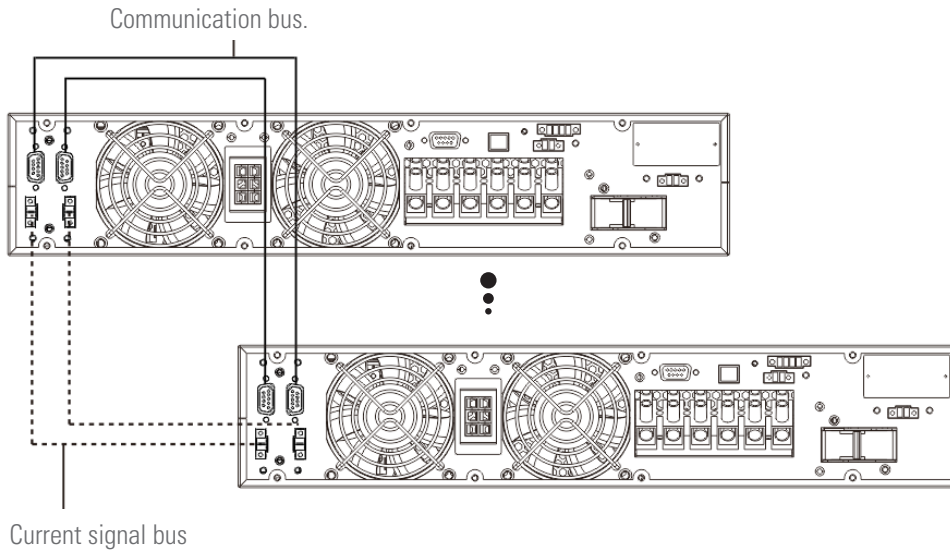

Fig. 25. Communication and current signal connections for system in parallel.
- **Parallel connections and current signal bus.** Use the 15-wire signal cable with mesh and DB15 connectors at the ends to connect a maximum of 3 devices. Each cable has a male and a female connector at the ends which must be connected to link two devices. It is essential to close the communications loop of the parallel bus and the current signal bus through the cable with connectors (see Fig. 25). The length of the cables related to the parallel bus is approx. 1.5 metres and must not be prolonged under any circumstances due to the risk of interference and communication failures that this would entail.